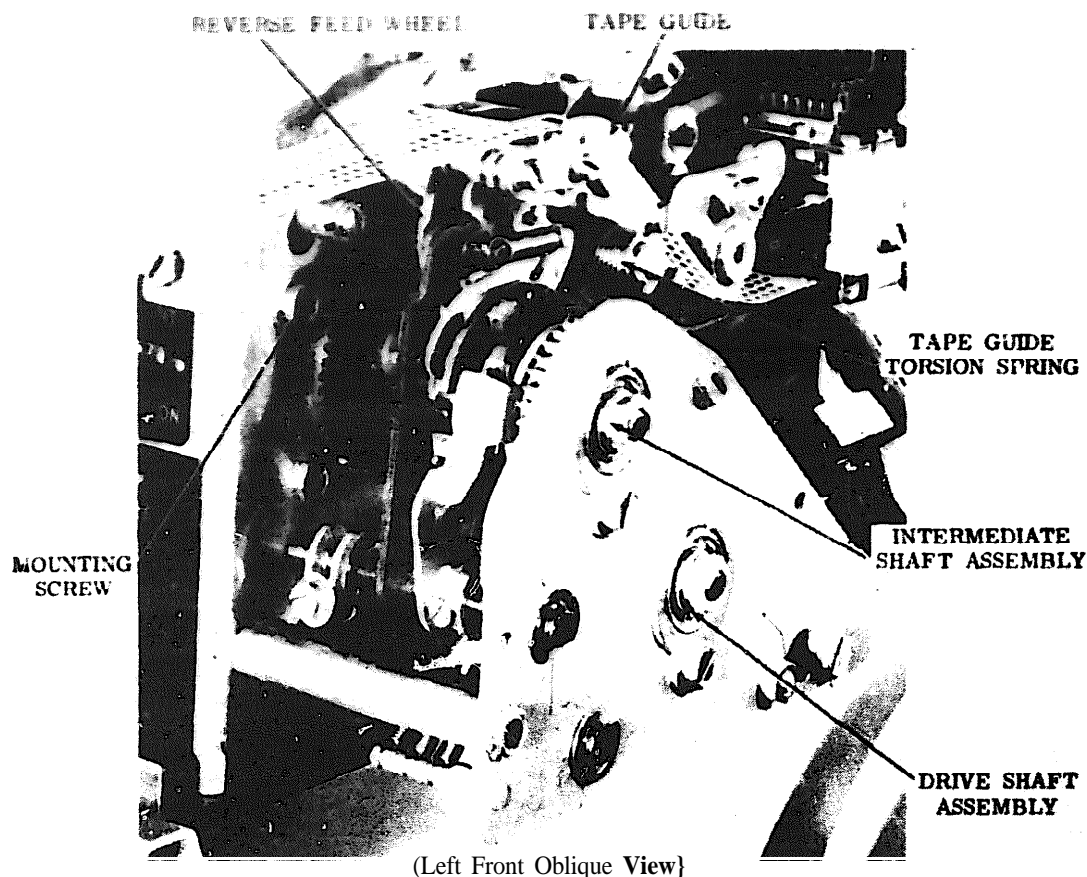

Figure 11- Punch Backup Mechanism, Less Cover
2.11 The backup mechanism is an electro-mechanical device which, when given an electrical pulse, passes the product tape through the punch block, of the tape punch unit, in the reverse direction for 80 characters (Figure 11). During normal forward operation of the associated punch unit, the forward feed wheel will feed tape to the left. The tape is passed through the tape guide assembly (not engaging the reverse feed wheel). When an electrical pulse is received by the backup mechanism, the tape guide assembly pivots allowing the reverse feed wheel to engage the tape and the forward feed
B. Punch Backup Mechanism (Figures 11 and 20)